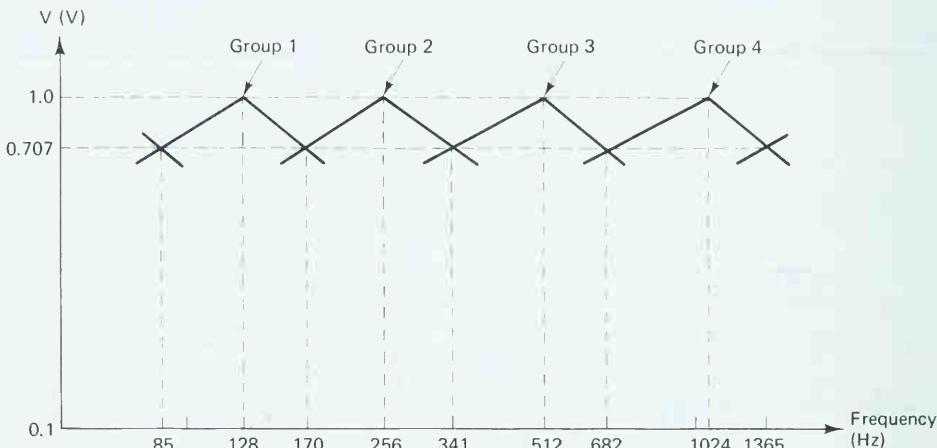

FIGURE LE11-3a
- 11-3.** A stereo equalizer allows an operator to add, boost, or decrease the signal at certain frequencies throughout the audio spectrum. A 10-band stereo equalizer would have 10 controls for each channel. The 10 controls divide the audio spectrum into 10 octaves. The center frequency of the octave ranges are 32, 64, 128, 256, 512, 1024, 2048, 4096, 8192, and 16,384 Hz. Therefore, the key circuit in a stereo equalizer is a bandpass filter with the above-mentioned center frequencies. If the circuit is designed with a $Q = 1.5$, the 0.707 points on the frequency spectrum for each filter will intersect with its neighbor. See Fig. LE11-3a for the 128-, 256-, 512-, and 1024-Hz frequency plots.